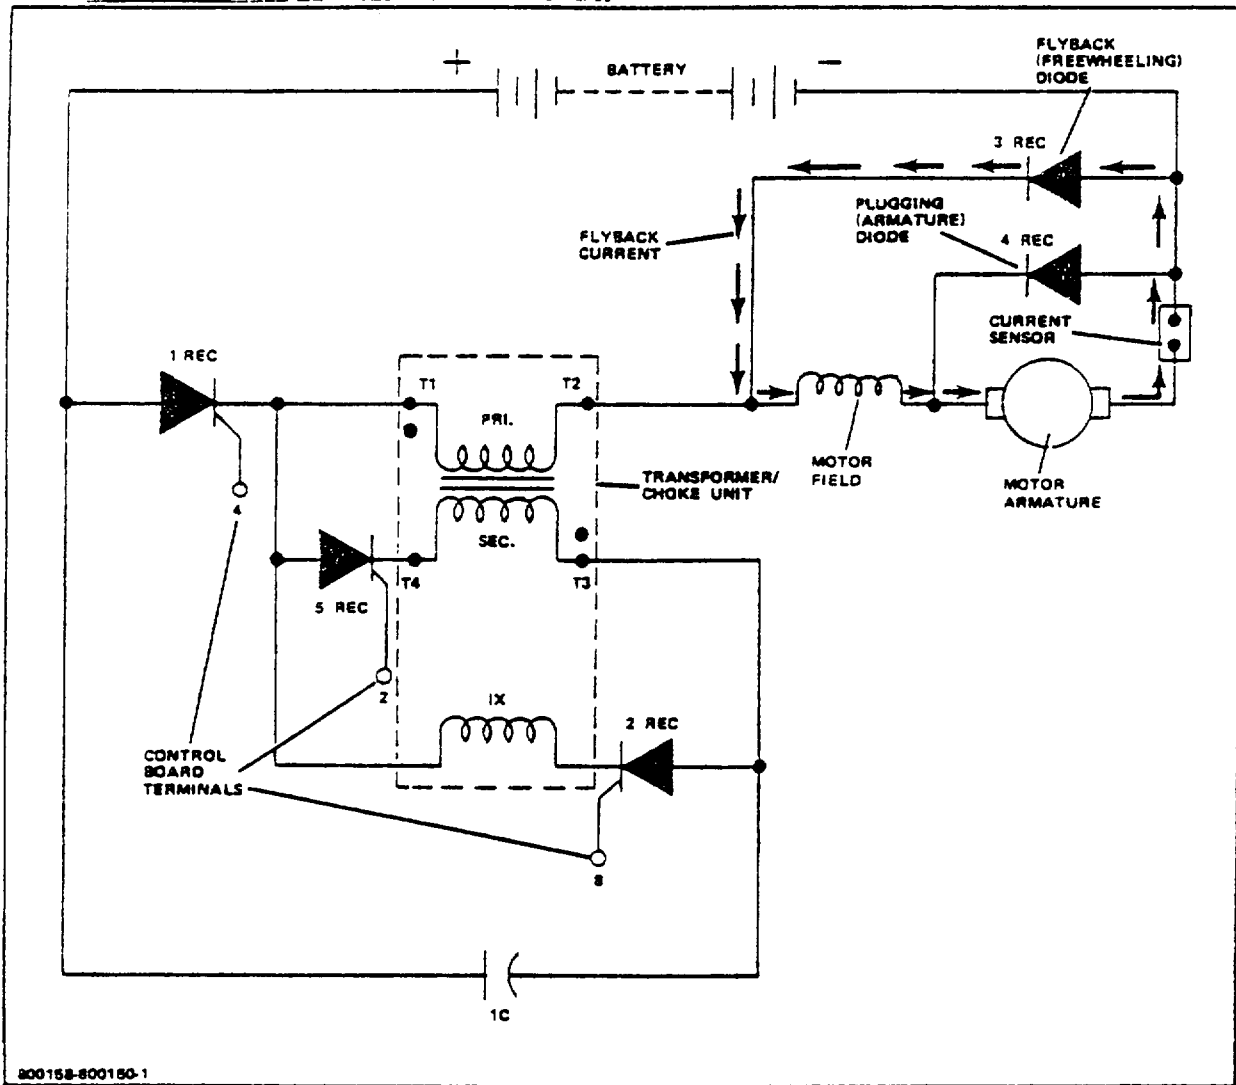

Figure 1-9. SCR Cycle and Flyback Current
5. "Flyback" Current Flow During EV-1 OFF Time (Fig 1-9)
which causes the armature voltage to be reversed. The control card senses the directional lever change and current flow through the current sensor, and triggers the control into "Plug" mode. During ON time, armature voltage and battery voltage cause high reverse current flow through the motor field, providing a retarding torque to slow the motor and assist in braking the truck; and current generated in the armature flows through 4 Rec. During OFF time, current induced by the motor field flows through the plugging diode (4 Rec [Fig 1-9]), which provides a smooth plug and maintains low motor terminal voltage. During plug mode, the control card lowers the ON time to provide the proper level of retarding torque. The severity of plug is adjustable at the PLUG trimpot on the control card.